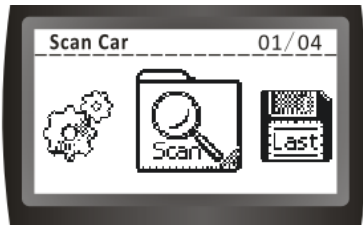

Figure 6
3. Press  OR  button, the screen will change to: “Scan function”: (Figure 6)